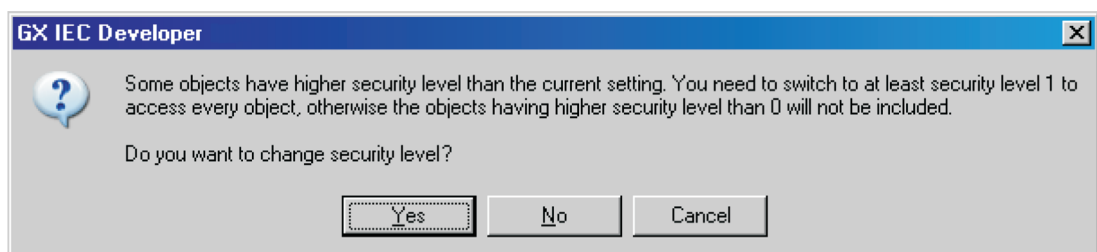

Fig. 4-28: *Security level warning*
- If the user chooses **No** in the message box shown in Fig. 4-28, the inaccessible objects will not be exported.
- Choosing **Cancel** in in the message box shown in Fig. 4-28, the process using the export functionality will be cancelled.
If the user decides to change the security level, but then cancels the **Change Security Level** dialogue or sets a security level still not high enough to export every object, the message box shown in Fig. 4-28 will be displayed again, until the needed security level is set or **No** is chosen in this message box.